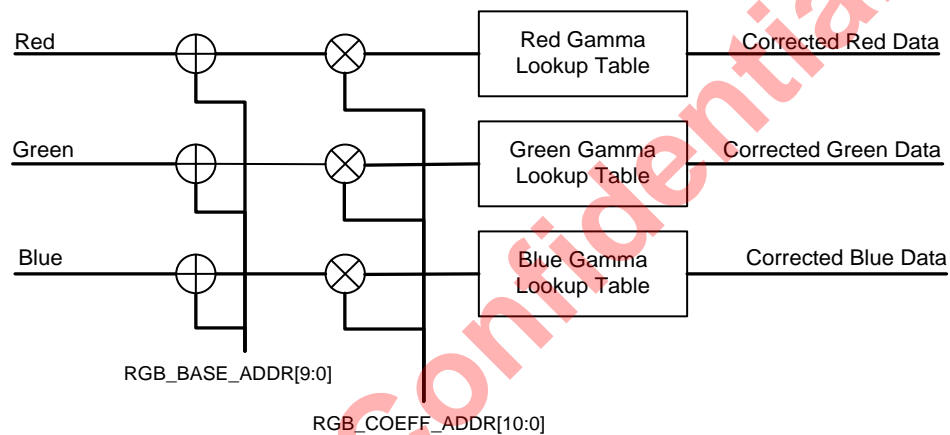

Figure 7.1 - LCD data processing flowchart
- The data processing is illustrated in Figure 7.1